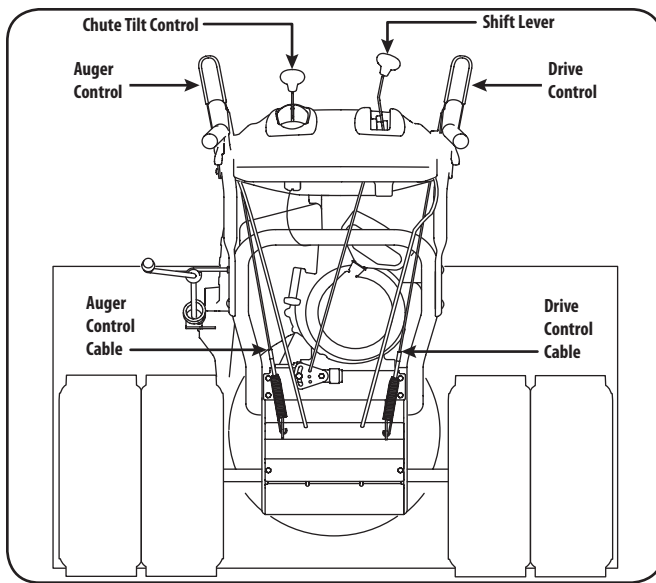
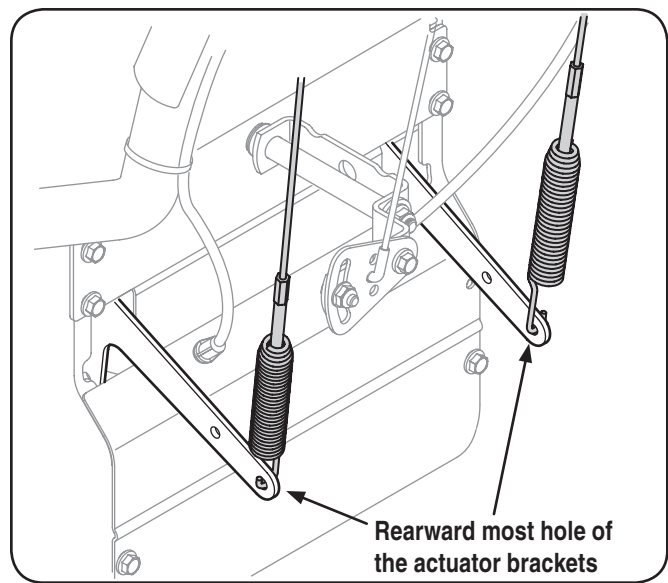

Figure 3-10
Figure 3-11
4. Looking beneath the handle panel, check that all of the cables (steering, auger, and drive) are properly routed and not pinched or kinked. Make certain the springs at the lower end of the auger and drive cables are securely hooked into their respective actuator bracket. See Figure 3-11.
When the auger control is released and in the disengaged "up" position, the cable should have very little slack. It should NOT be tight. Refer to Figure 3-10.
1. With the engine turned off, move the shift lever into sixth (6) position. Refer to Figure 3-10.
1. From beneath the handle, pull downward on the appropriate cable and unhook the spring found on the end of the cable from its respective actuator bracket. Refer to Figure 3-10 and Figure 3-11.